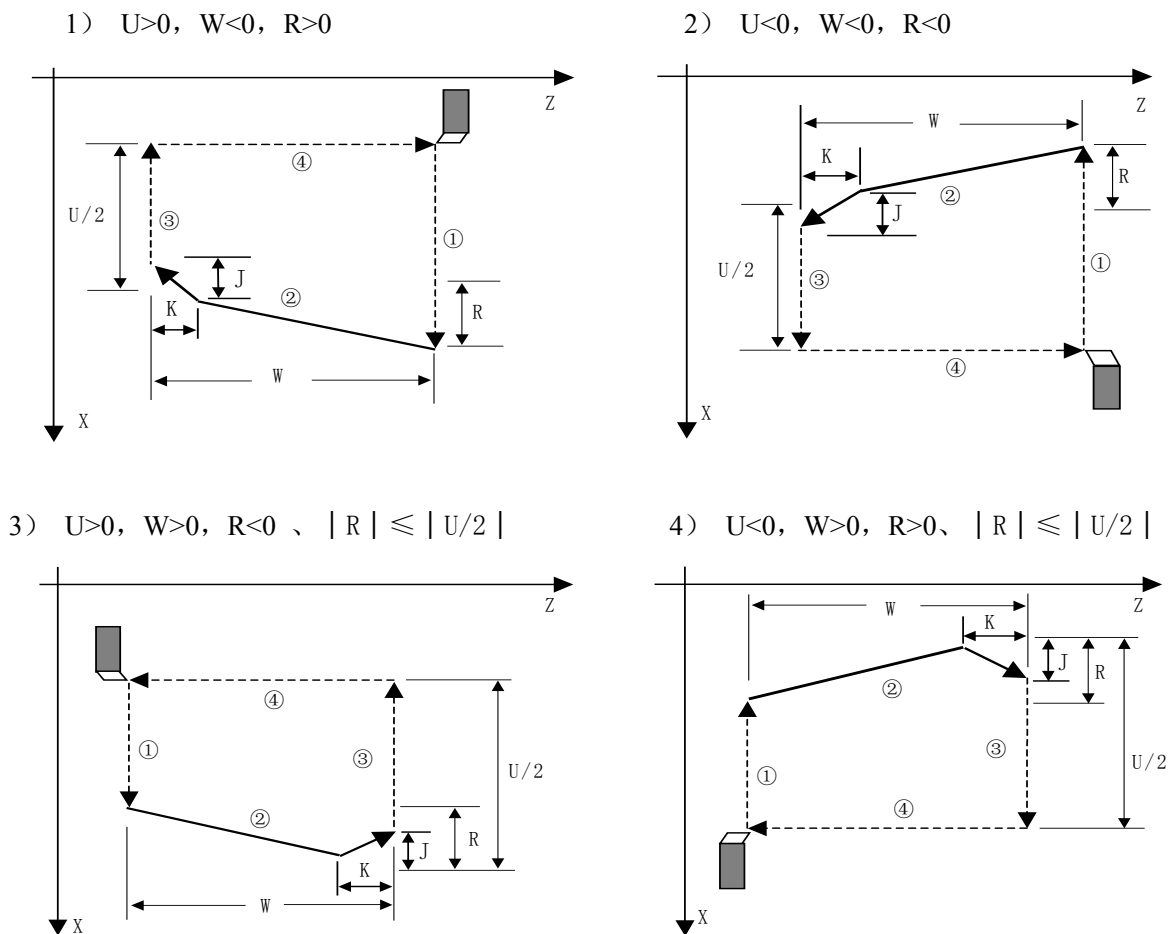

Fig. 3-41
**Instruction function:** Tool infeeds in radial(X axis) direction and cuts in axial(Z axis or X, Z axis) direction from starting point of cutting to realize straight thread, taper thread cutting cycle with constant thread pitch. Thread run-out in G92: at the fixed distance from end point of thread cutting, the tool executes thread interpolation in Z direction and retracts with exponential or linear acceleration in X direction, and retracts at rapidly traverse speed in X direction after it reaches to end point of cutting in Z direction as Fig. 3-41.
Instruction path: relative position between thread cutting end point and starting point with U, W, R and tool path and thread run-out direction with different U, W, R signs as Fig. 3-41: